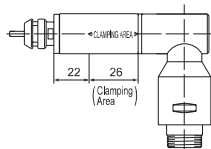

Fig. 9
① When mounting a spindle, refer to the Clamping Area etched on the spindle. (Fig. 9)